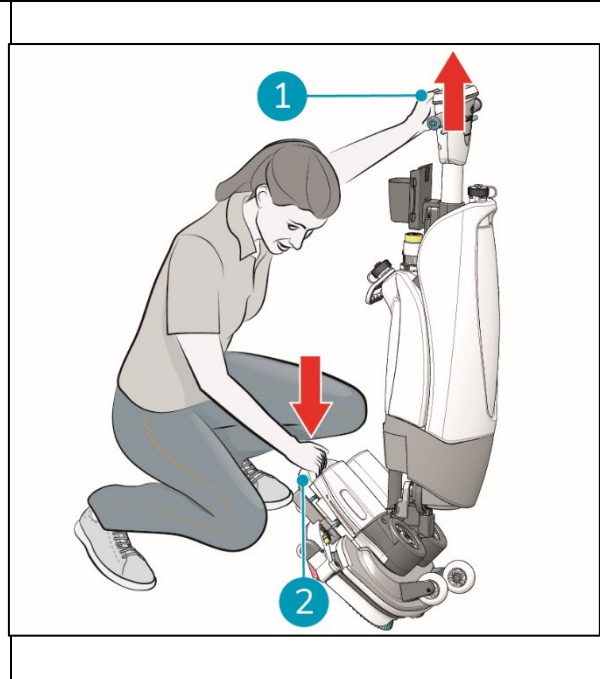

Figure 21
1. Crouch down while holding the scrub deck firmly with one hand (Figure 21, pos. 2).
2. Push the handle forward with your other hand (Figure 21, pos. 1).